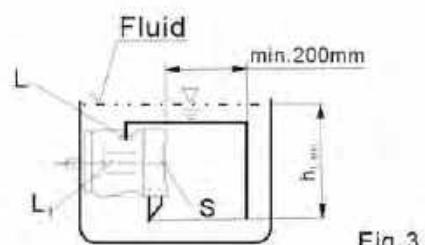

Fig. 3
a) If the minimum fluid level is above the top of the pump, port "L1" closed; "L" and "S" should remain open, L piped and recommendation S piped (see Fig. 3)